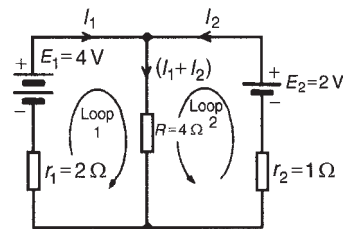

Figure 13.5
1. Use Kirchhoff's current law and label current directions on the original circuit diagram. The directions chosen are arbitrary, but it is usual, as a starting point, to assume that current flows from the positive terminals of the batteries. This is shown in Fig. 13.5 where the three branch currents are expressed in terms of I_1 and I_2 only, since the current through R is $(I_1 + I_2)$
2. Divide the circuit into two loops and apply Kirchhoff's voltage law to each. From loop 1 of Fig. 13.5, and moving in a clockwise direction as indicated (the direction chosen does not matter), gives
From loop 2 of Fig. 13.5, and moving in an anticlockwise direction as indicated (once again, the choice of direction does not matter; it does not have
(i.e. I_2 is flowing in the opposite direction to that shown in Fig. 13.5)